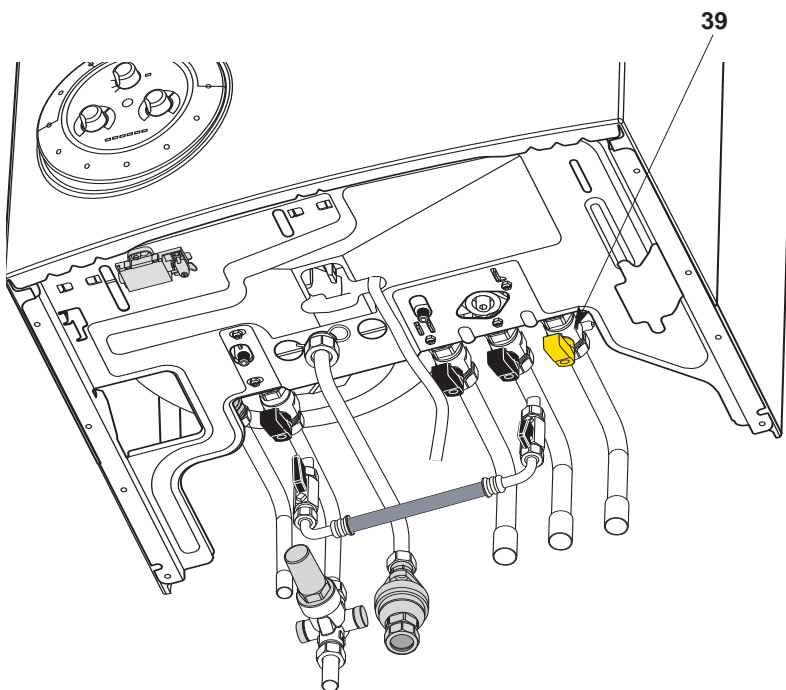

Fig. 3.3
2. Check that the gas service tap **39** (Fig. 3.3) is opened (Figs. 3.1 and 3.2) and that the mains power is on, the green indicator **29**  will light. The boiler is now ready to use.